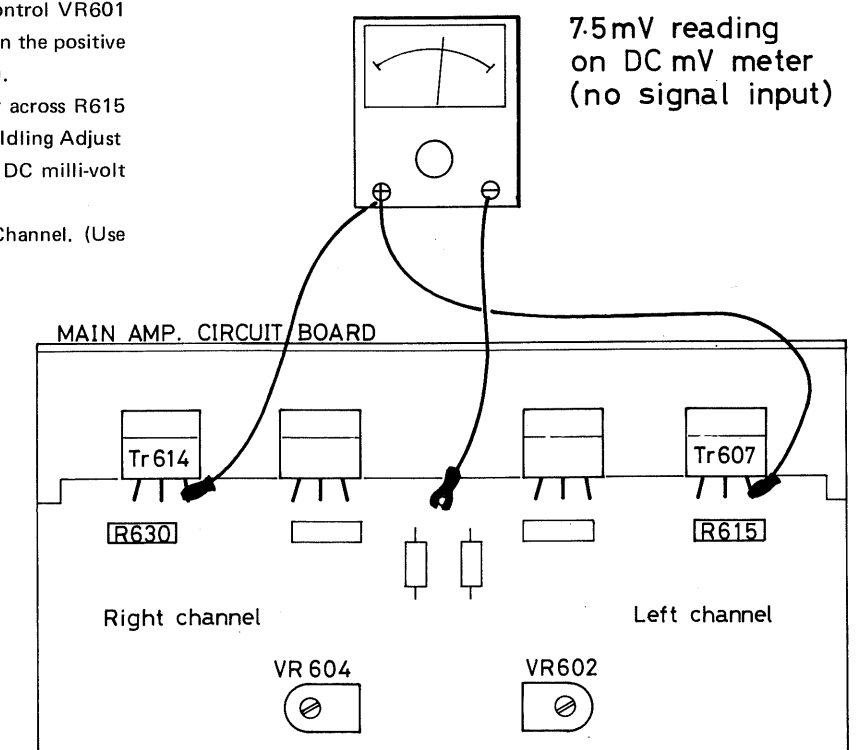

Figure 2
6. Adjust idling current using a DC milli-volt meter across R615 resistor (on Main Amp. Circuit Board), and rotate Idling Adjust Control VR602 to obtain a 7.5 mV reading on DC milli-volt meter (no signal input). See Figure 2.